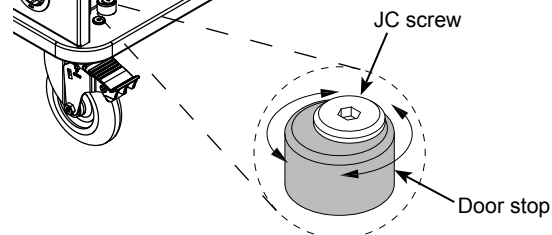

Figure 2
1. The door stop can be rotated slightly to adjust the closed position of the doors. To rotate, loosen the JC screw slightly with a 4mm hex wrench. **Figure 2.**